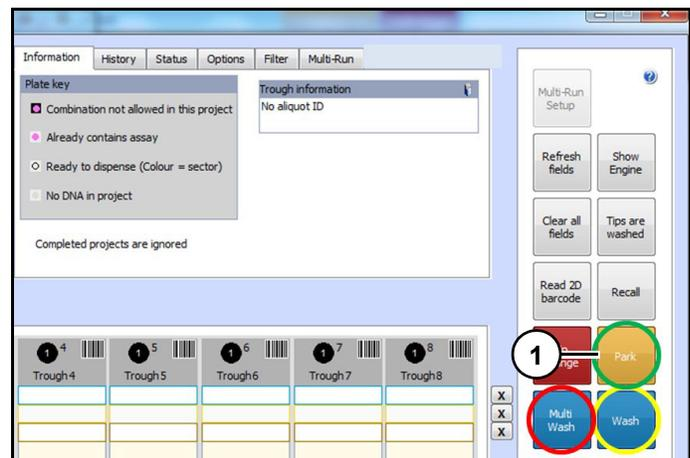

Figure 7
13. Click "Park" (1) (Figure 7) to move dispense head to parked position.